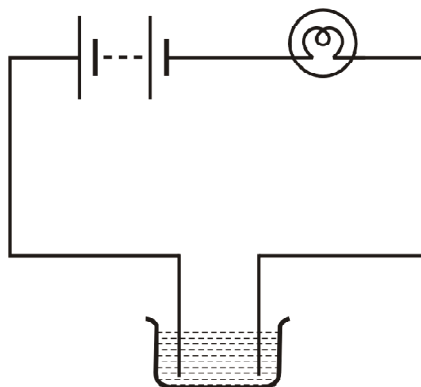

Fig. 14.10
4. The bulb does not glow in the setup shown in Fig. 14.10. List the possible reasons. Explain your answer.